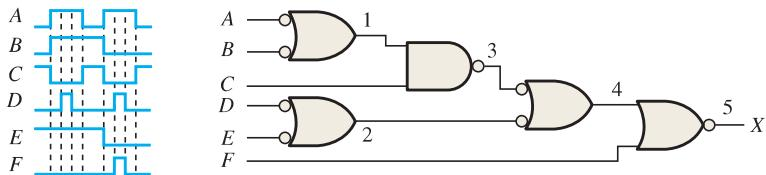

FIGURE 5–63
33. Assuming a propagation delay through each gate of 10 nanoseconds (ns), determine if the *desired* output waveform X in Figure 5–64 (a pulse with a minimum $t_W = 25$ ns positioned as shown) will be generated properly with the given inputs.